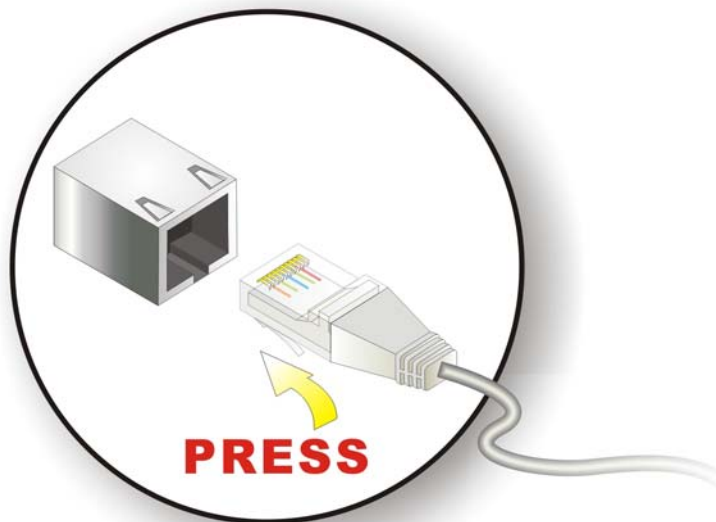

Figure 3-17: LAN Connection
Step 2: Align the connectors. Align the RJ-45 connector on the LAN cable with one of the RJ-45 connectors on the bottom panel of the POC-17i/19i Series. See **Figure 3-17**.